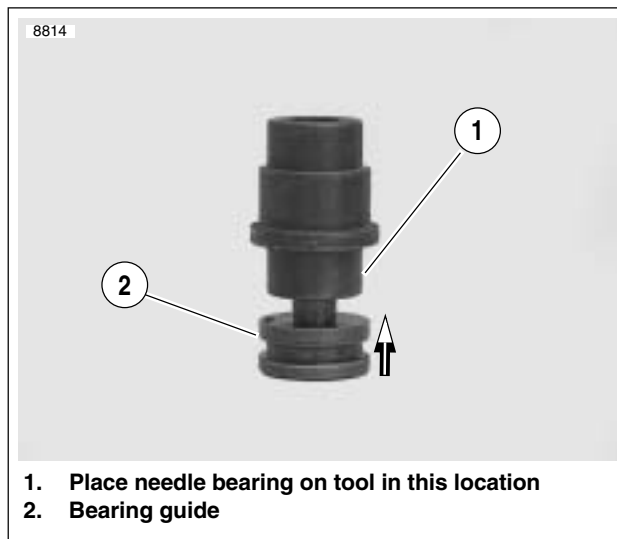

Figure 6-28. Bearing Installer
1. See Figure 6-28. Remove bearing guide from end of CLUTCH SHELL BEARING REMOVER/INSTALLER (Part No. B-45926).